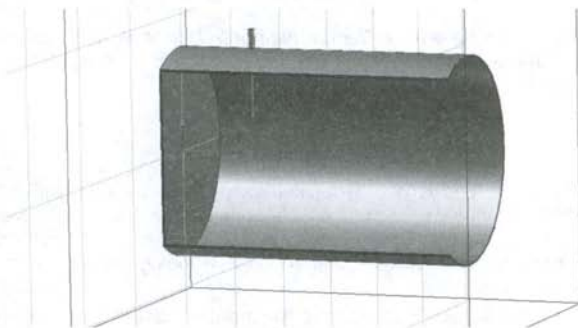
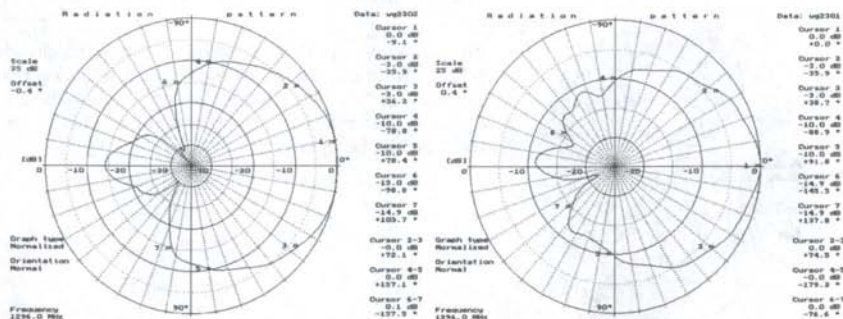
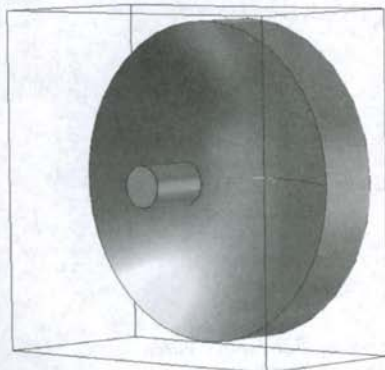
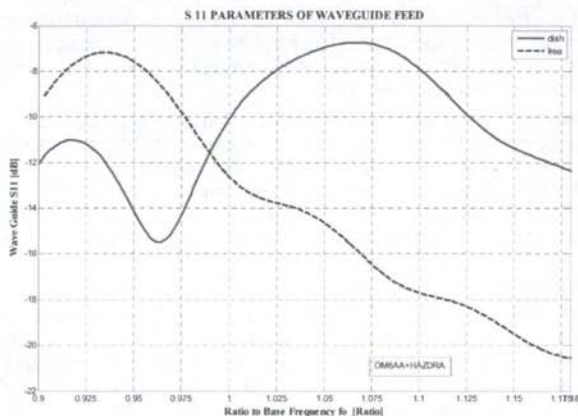

Fig. 5 Plane circular waveguide feed
Fig. 6 Radiation pattern of plane circular waveguide feed, 0.65λ
Fig. 8 5λ diameter antenna assembly
Fig. 9 Feed S_{11} parameter variations
- Abb. 5 *Schaltbild HF-Teil*
- Abb. 6 *Layout HF-Platine – 90 x 55 mm*
- Abb. 8 *PCB Layout Schalter – 49 x 36 mm*
Examples of measured E- and H-plane radiation patterns of Fig. 5's plane circular waveguide with inner diameter 0.65λ and length 1λ are shown in Figs. 6. The waveguide is excited by a $\lambda/4$ probe. This simple structure is often used in conjunction with smaller and deeper dishes.
The radiation pattern in Fig. 6 shows that the back lobe is suppressed by only 12 dB. The backward radiation of this feed may be further suppressed by adding a choke at the open end of the waveguide, with the resulting narrowed radiation pattern and increased dish blockage as tradeoffs.
Documentation of square cross section septum feed *S*-parameter dependence on the distance from a conductive plate has been published [6]. The study for an antenna assembly consisting of the feed displayed in Fig. 5 and the 5λ diameter dish reflector (f/D ratio 0.35) shown in Fig. 8 is plotted in Fig. 9.